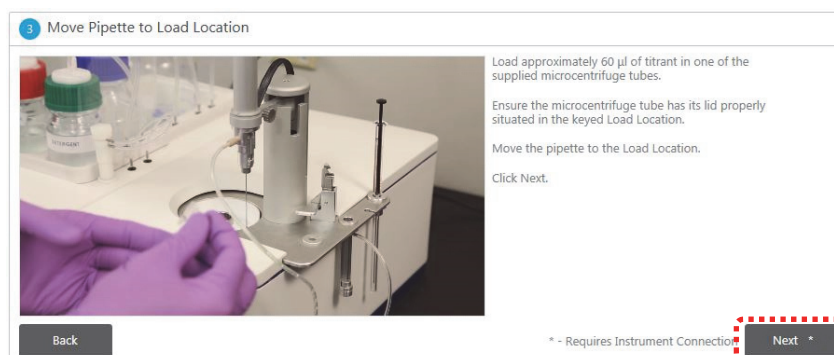

Figure 4. Removing the reference cell lid over the reference cell port.
- a. Be sure to remove the reference cell lid over the reference cell port, before loading (Figure 4).